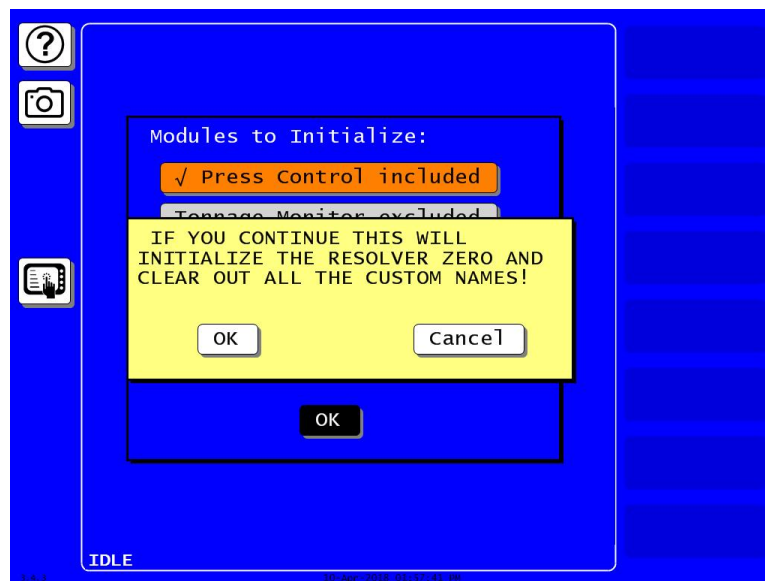

Figure 2-12. Initialize Press Control Warning and Confirmation
5. Press OK. A warning and confirmation box appears (Figure 2-12).